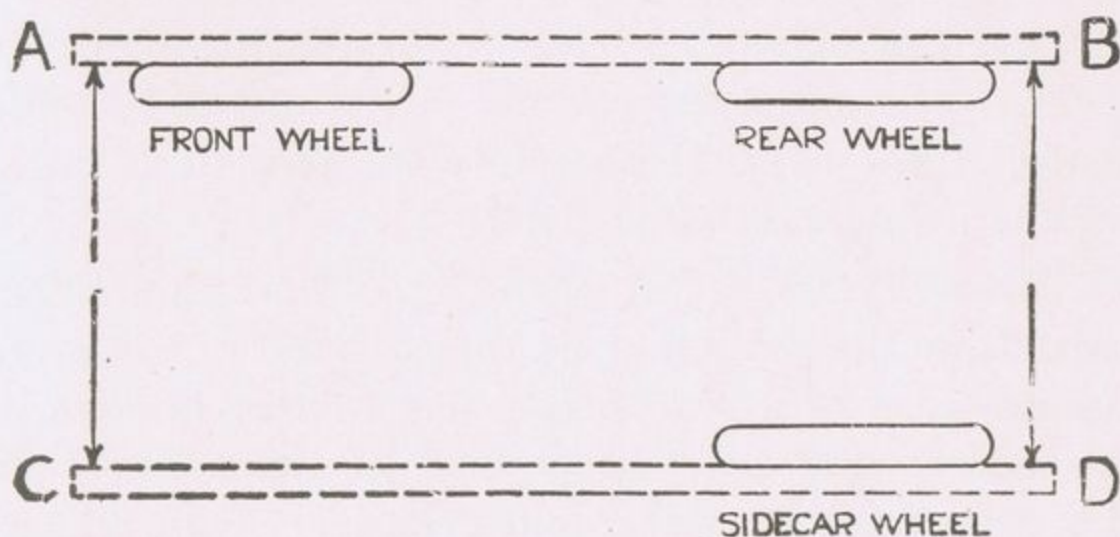

Fig. 22.
**SIDECAR ALIGNMENT** (Fig. 22). Lay a wooden straightedge *A—B* against both wheels of the motor cycle and a similar straightedge *C—D* against the sidecar wheel. Make certain that the machine is upright or leaning outwards slightly by adjustment of the seat pillar connection and then adjust the sidecar until points *A* and *C* are half-